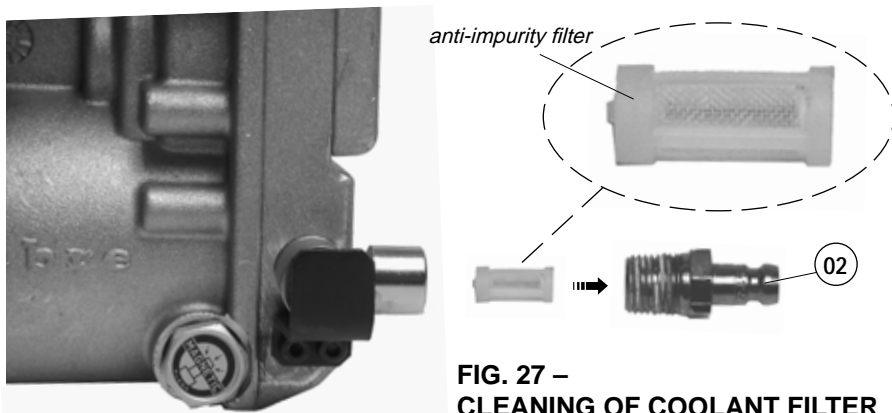

FIG. 27 – CLEANING OF COOLANT FILTER
- Lubricate the spindle support housing by means of the appropriate lubricator (25), the screw of the **DBG-F2** clamping device.
13.1.5) Cleaning of coolant filter (Ref. to Fig. 27)
- Using a 14mm key, unscrew the coupling (02).
- Reassemble the filter into the coupling (02) as shown in the Fig. 27, fully tighten the coupling.